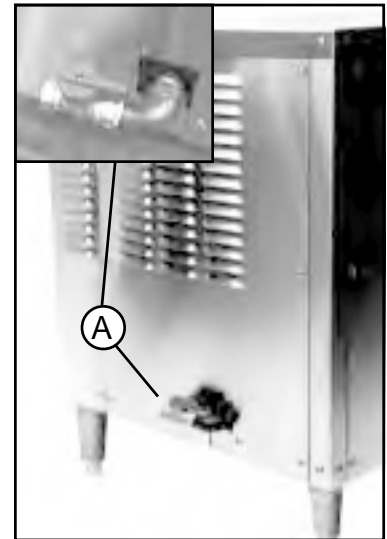

Figure 18
Refer to Figs. 18, 19, and 20
10. Gas connection point is 1/2" NPT. (See A, Fig. 18)